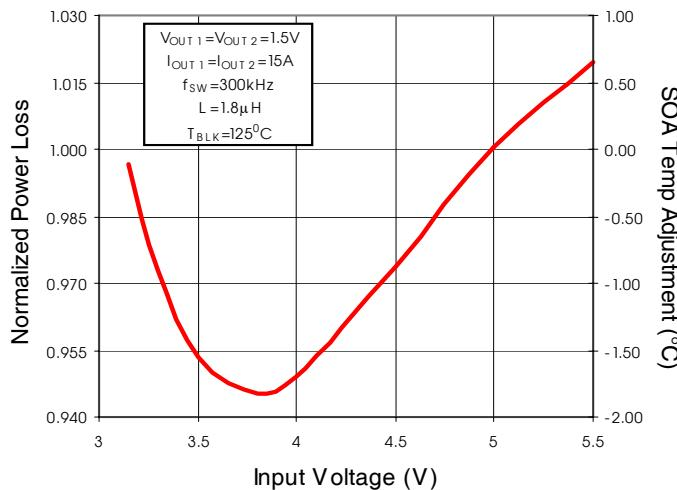

Fig. 4: Normalized Power Loss vs.  $V_{IN}$
To make adjustments to the power loss curves in Fig. 2, multiply the normalized value obtained from the curves in Figs. 4, 5, 6 or 7 by the value indicated on the power loss curve in Fig. 2. Remember that the power loss in Fig 2. is the power loss for 2 outputs operating with the same output voltage. If differing output voltages are used the initial power loss for each channel needs to be divided by 2. Then if multiple adjustments are required, multiply all of the normalized values together, then multiply that product by the value indicated on the power loss curve in Fig. 2. The resulting product is the final power loss based on all factors. See example no. 1.
To make adjustments to the SOA curve in Fig. 3, determine your maximum PCB Temp & Case Temp at the maximum operating current of each iP1201. Then, add the correction temperature from the normalized curves in Figs. 4, 5, 6 or 7 to the  $T_x$  axis intercept (see procedure no. 2 above) in Fig. 3. When multiple adjustments are required, add all of the temperatures together, then add the sum to the  $T_x$  axis intercept in Fig. 3. See example no. 2.
(Fig. 4) Normalized power loss for input voltage  $\approx 0.97$
- Output1 (Fig. 4) Normalized SOA Temperature for input voltage  $\approx -1.0^{\circ}\text{C}$
- Output2 (Fig. 4) Normalized SOA Temperature for input voltage  $\approx -1.0^{\circ}\text{C}$